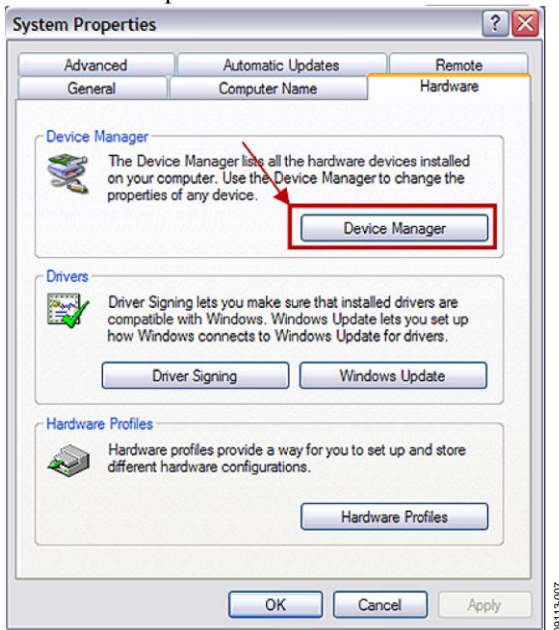

Figure 5. System Properties
- Click the **Hardware** tab of the **System Properties** window, as shown in Figure 5.